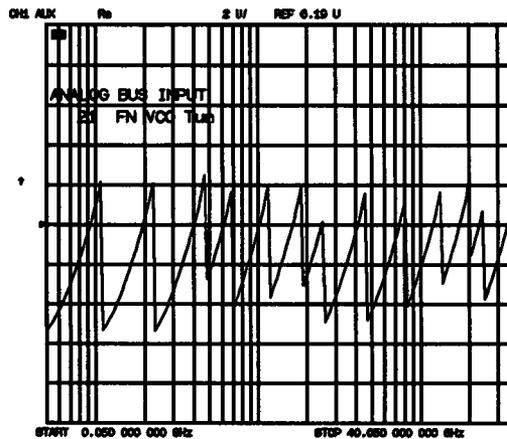

Figure 10-2. Fractional-N Tuning Voltage Waveform at Abus Node 21
**Fractional-N Checks With ABUS.** Press **MENU** **SWEEP TYPE MENU** **LOG FREQ** **SYSTEM** **SERVICE MENU** **INPUT PORTS** **ANALOG BUS** **2** **1** **x1** and compare the fractional-N tuning voltage to Figure 10-2.